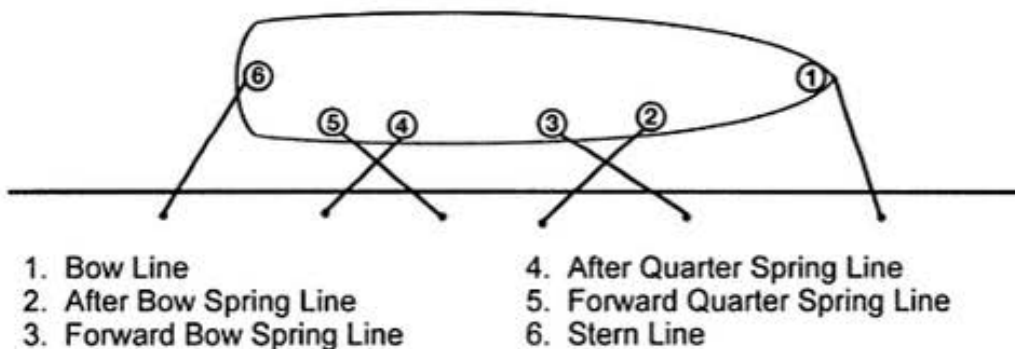

Figure 4-5. Mooring lines.
1. Slack or take in all lines except the bow breast line (line number one) and the forward after spring line (line number two) (see fig. 4-5). Using the capstan, heave around on number one to bring the bow in to the pier, moving the stern away from the pier. If this brings the stern out far enough to be well clear of any obstructions astern, take in all lines and back clear. If this does not bring the stern out far enough, hold line two and go ahead gently on the outboard engine with the rudder turned toward the pier. This same thing can be done with a single-screw ship, going ahead gently with the rudder turned toward the pier and holding line number two to keep the ship from moving forward.